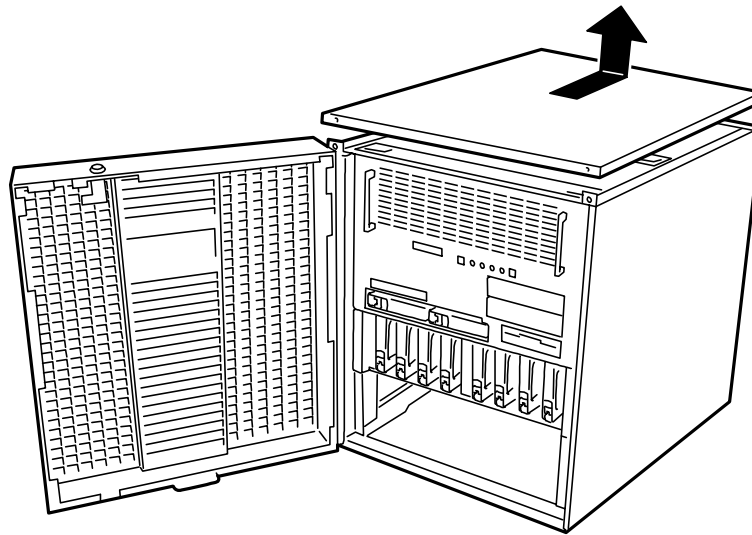

Figure 4-2. Removing the Top Cover of the Tower Cabinet
6. Pull the cover up and off the top of the tower cabinet and set it aside for reattaching later, see Figure 4-2.